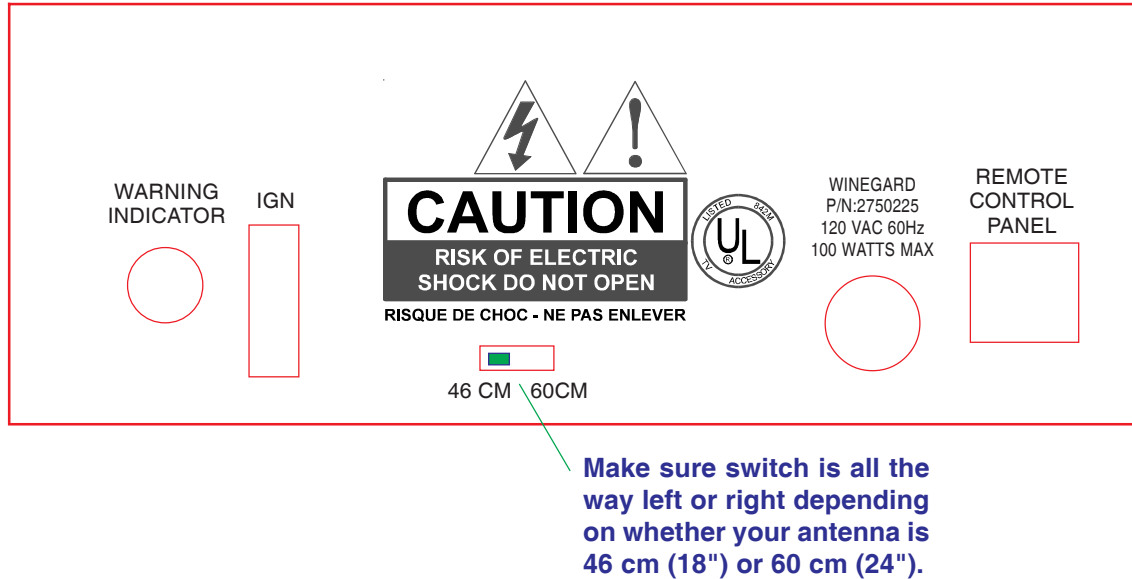

Figure 25
1. Verify that the 46 CM - 60 CM switch (on the back panel) is all the way to the left or right. If switch is in the middle, positioner may not turn on. See Figure 25.